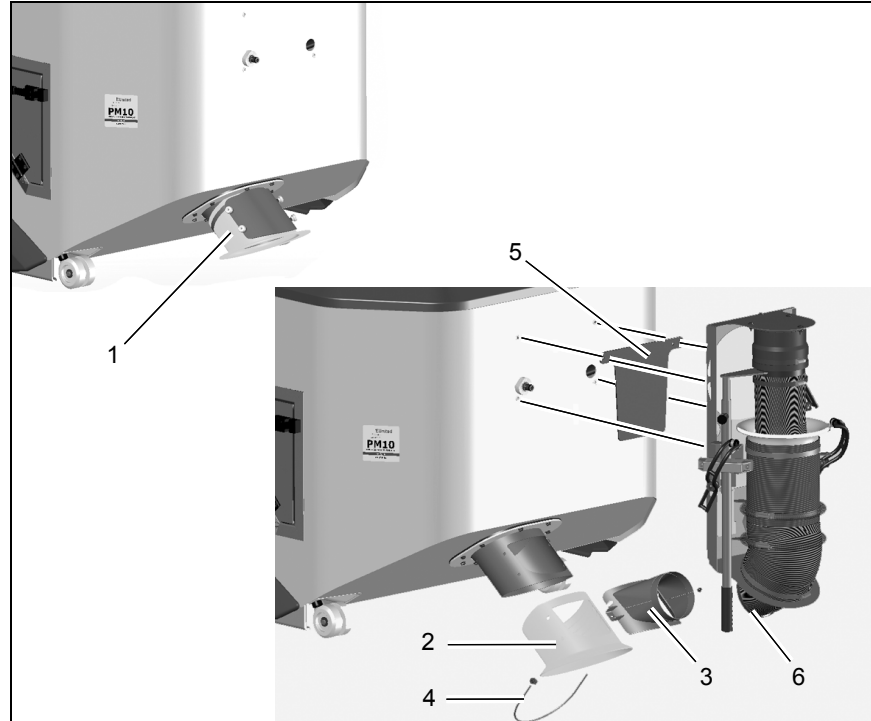

Fig. 2
2. Disassemble the rubber cuff and the cover plate (Fig. 2/1) at the neck of the hopper.
1. Push the rubber cuff (Fig. 2/2) onto the neck of the hopper (observe correct position).
2. Attach the neck (Fig. 2/3) of the hand suction hose to the rubber cuff using M6 flat round screws, washers and nuts.
3. Secure the rubber cuff at the neck using the bracket (Fig. 2/4), washers and M6 nuts.